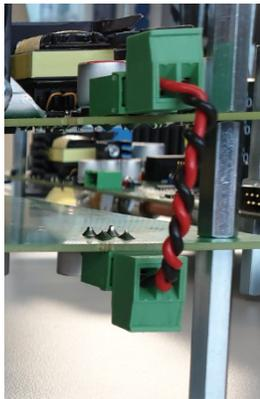

Figure 4. Low Voltage Supply Connection
3. Auxiliary power. This is the connection to power the microcontroller, gate drivers, and all other low voltage ancillary systems. The higher layer needs to be connected to the lower layer as shown in Figure 4.